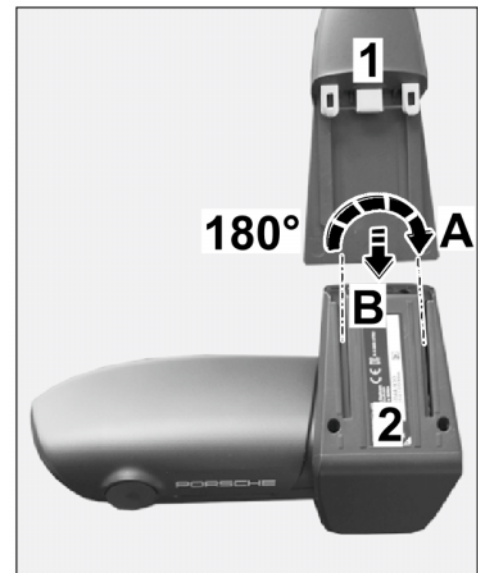

Figure 7
- 2.1.1 Install retainer plate with wire harness on the base of the front camera until the locking mechanism engages (⇒ Figure 7).